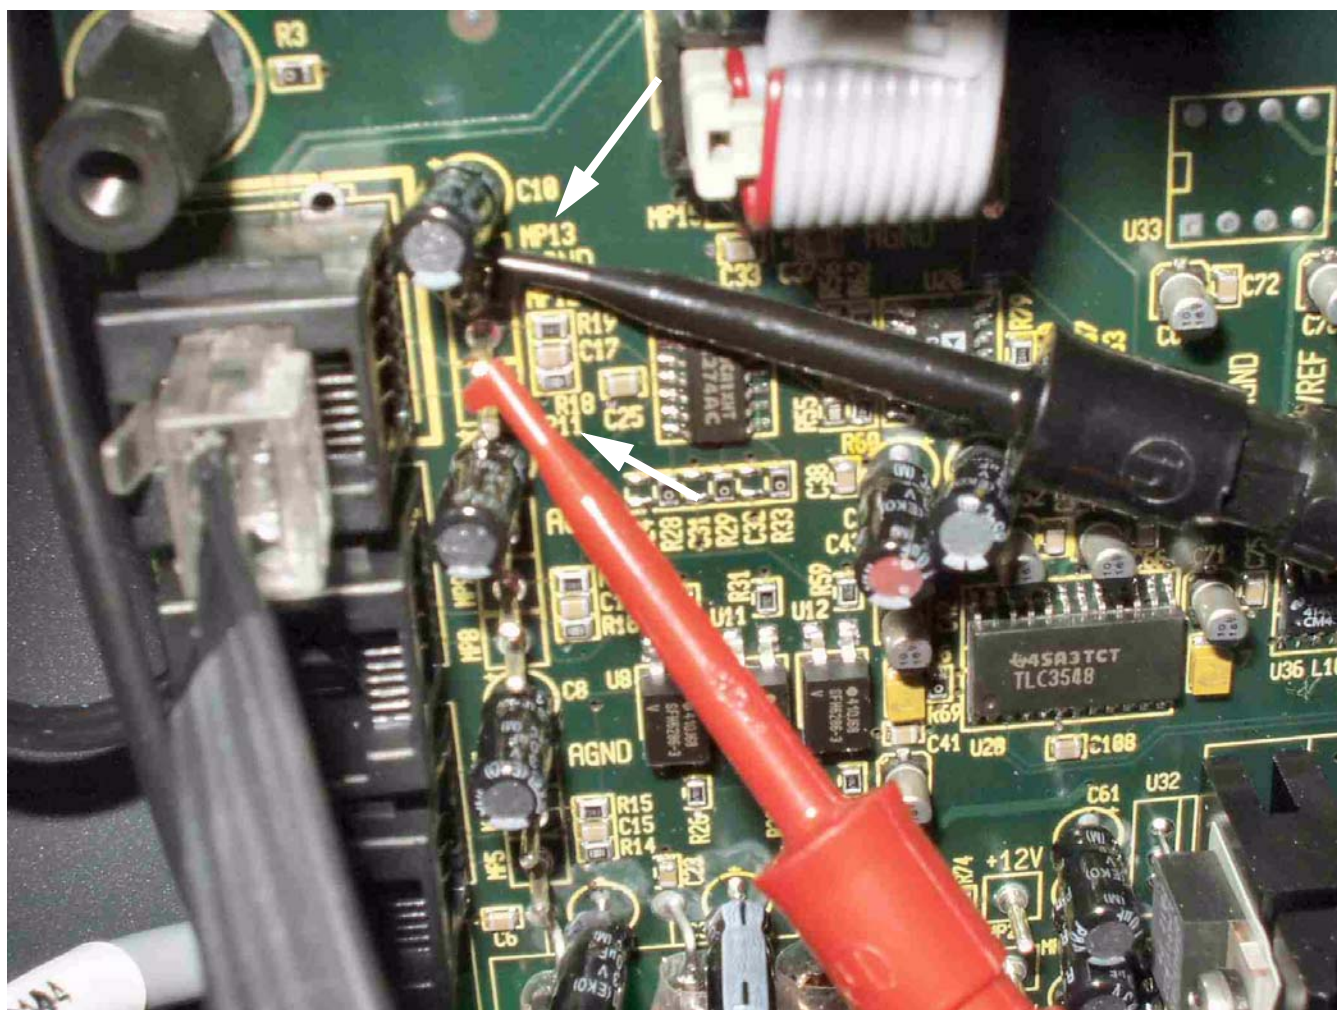

Figure 7-31. Voltage Measurement at Power Distribution Board
2. Simultaneously measure the set point as the voltage between pins MP 11 and MP 13 on the power distribution board. See Figure 7-31.